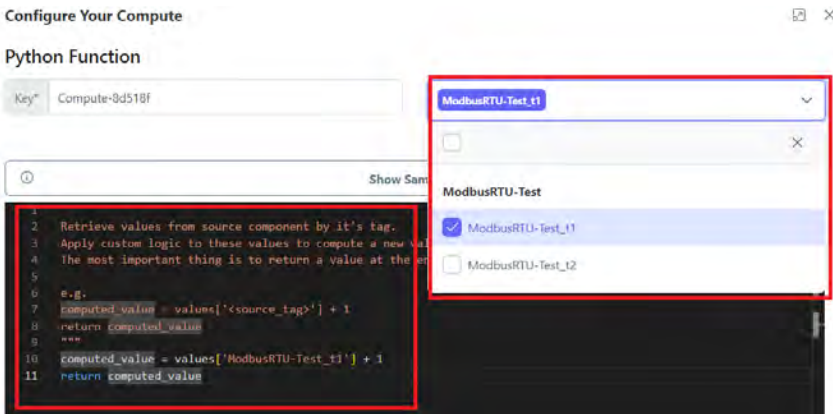

Figure 3-10: Develop Customized Data Conversion
3. **Data Conversion by Compute:** Upon receiving the sensor data from the Modbus server/slave, EGiFlow iApp can perform any necessary data conversion or formatting to ensure compatibility with MQTT. This may involve transforming the data into a suitable format, applying any required preprocessing or aggregation, and ensuring adherence to the MQTT payload structure. (See Figure 3-10)